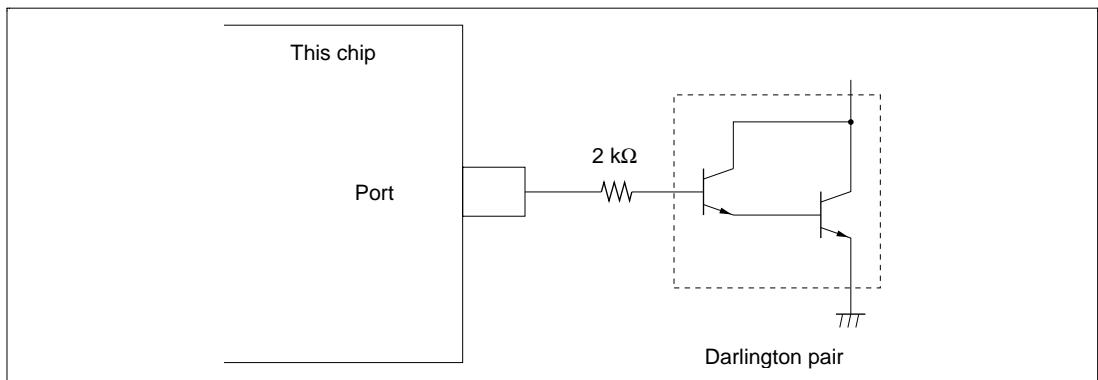

Figure 22.1 Darlington Pair Drive Circuit (Example)
2. When driving a Darlington pair or LED, always insert a current-limiting resistor in the output line, as shown in figures 22.1 and 22.2.